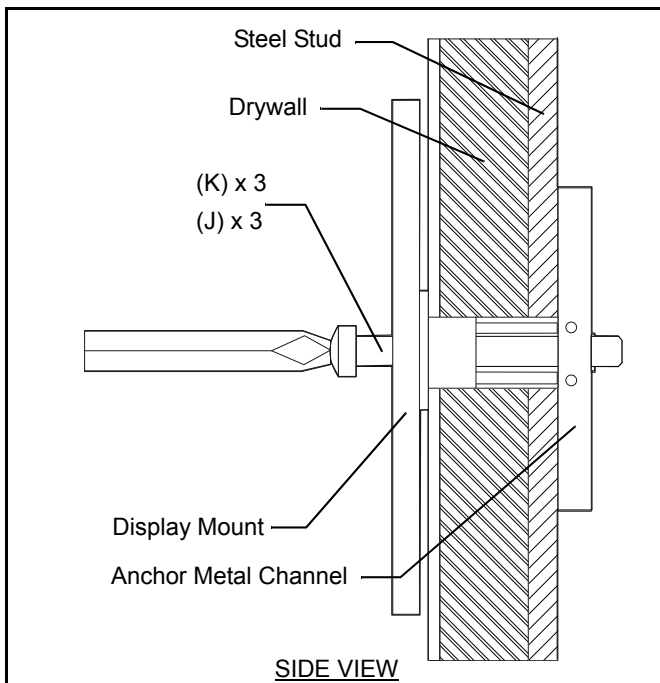

Figure 6
11. Place mount over anchors and align mounting holes in display mount with holes in anchors. (See Figure 6)
12. Place flat washer (J) onto Phillips pan head screws (K).
13. Insert Phillips pan head screws (K) with flat washer (J) through mounting hole in display mount and into anchor (L) and tighten until flush against mount. DO NOT overtighten!